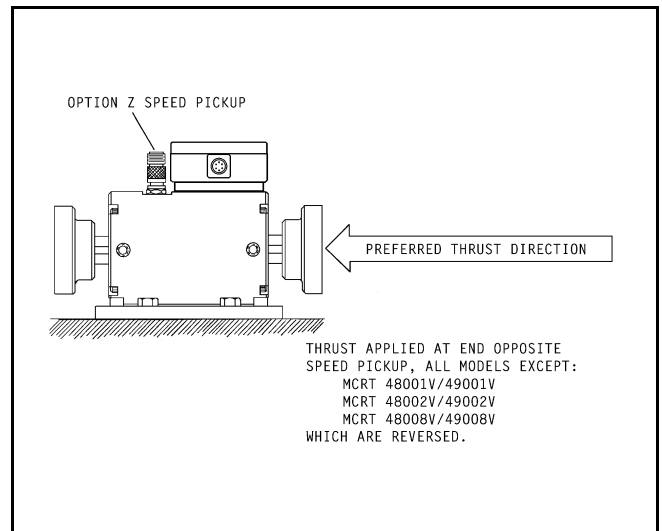

Figure 4. Preferred Thrust Path
Orienting a **foot mounted** torqueometer per Figure 4 will provide increased uni-directional thrust capacity. Because dynamic thrust loading is usually bi-directional, it's safest to limit bearing axial (thrust) loads per ¶C.3. **Orientation does not affect the thrust capacity of torqueometers installed as floating shafts.**
When axial bearing loads are *uni-directional*, the orientation illustrated in Figure 4 increases the uni-directional thrust rating by a factor of four (4). Remember, the *increased uni-directional rating applies only to optimum orientation of foot mounted torqueometers.*